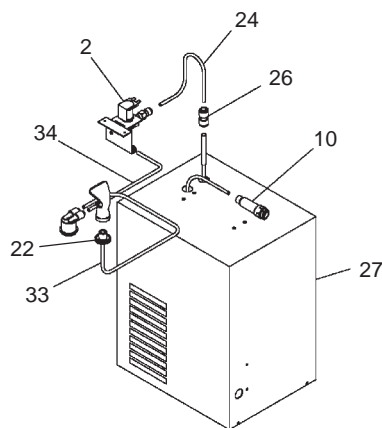
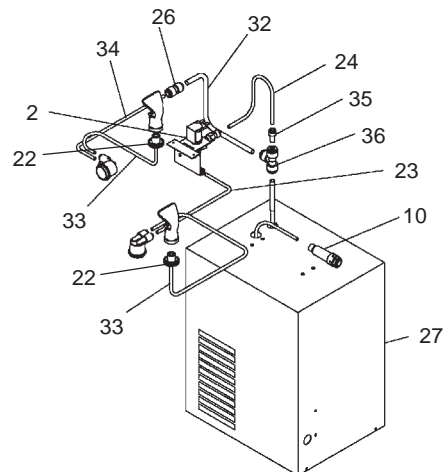

FIG. 4
FIG. 5
5. Make connection between remote chiller and building supply line. Remove the 3/8" x 1/4" union from the chiller inlet tube and either install it on the chiller outlet tube of single fountain units or on the water inlet line of the upper fountain of dual fountain units. Install the strainer on the chiller inlet tube. Install a 3/8" O.D unplated copper water line between the valve and the cooler. Remove all burrs from the outside of the water line. Insert the 3/8" water line into the inlet side of the strainer by pushing it in until it reaches a positive stop, approximately 3/4" (19mm). See Fig. 4. **DO NOT SOLDER TUBES INSERTED INTO THE STRAINER AS DAMAGE TO THE O-RINGS MAY RESULT.**
6. Make connection between remote chiller and solenoid valve assy. Single Fountain Units (See Fig.4) - Insert end of 1/4" O.D. formed tube (provided) into union on chiller outlet and the other end into straight fitting on solenoid valve assy. On Dual Fountain Units (See Fig.5) install the 3/8" tee (provided) on the chiller outlet tube. Install the 3/8" stem x 1/4" O.D. tube union (provided) into 3/8" tee as shown. Install 1/4" formed tube (provided) between 3/8" stem x 1/4" O.D. tube union and the straight fitting on solenoid valve assy.